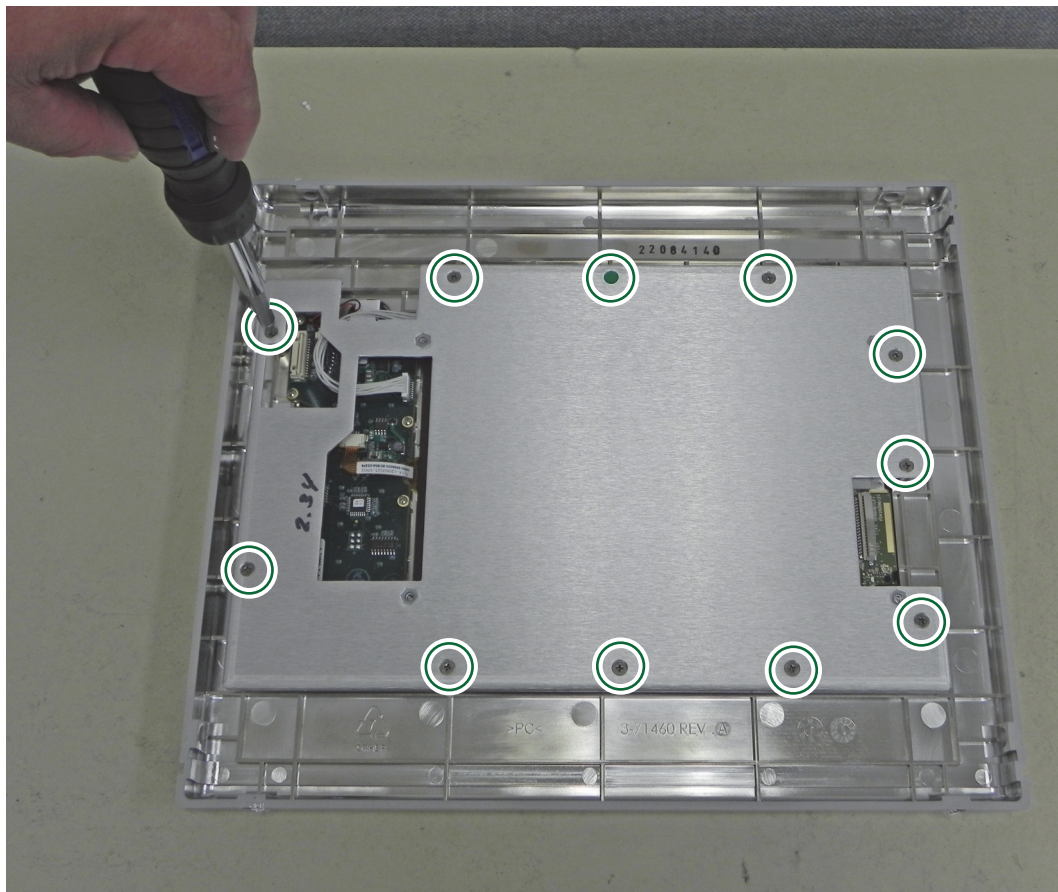

Figure 5-20. LCD Bracket Removal
2. Remove the 11 screws holding the LCD bracket to the PIM Master front panel (Figure 5-20). Reassembly torque is 0.64 N · m (5.7 lbf · in).